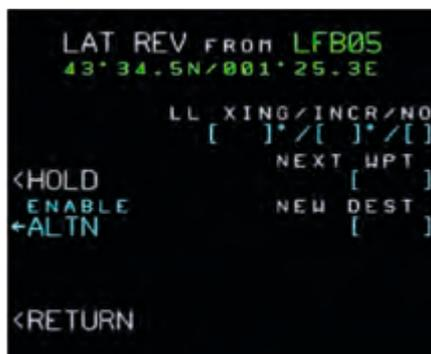

Figure 4
- 5) Enter a new DEST in the FMS, if required (fig. 4)